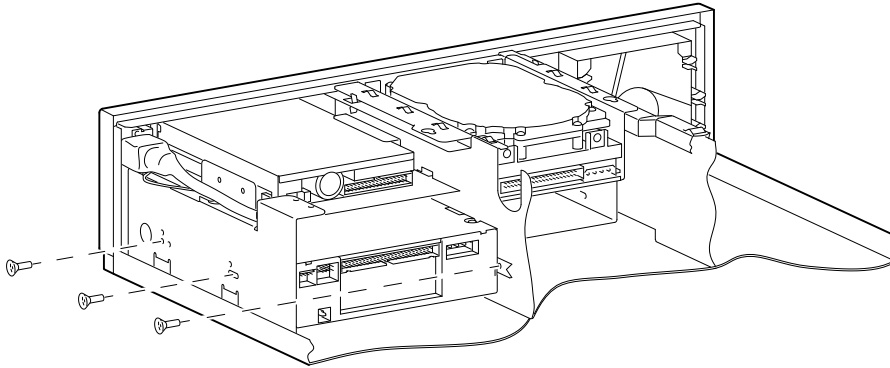

Figure 3-21. Securing the Drive
6. Slide the drive into the system unit, securing it with two screws on right side and one screw at back of holder on the left, as Figure 3-21 shows.